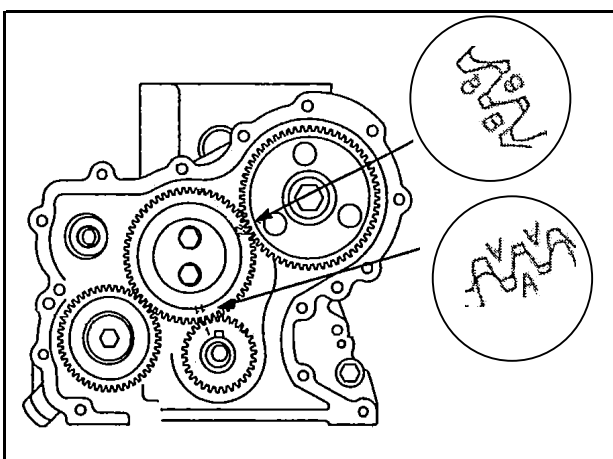

Fig. 14 - Aligning Timing Marks
6. With crankshaft key at 12 o'clock position, assemble idler gear so that timing mark AA is aligned with timing mark A on crankshaft gear, timing mark BB is aligned with timing mark B on camshaft gear, as shown in Fig.14.